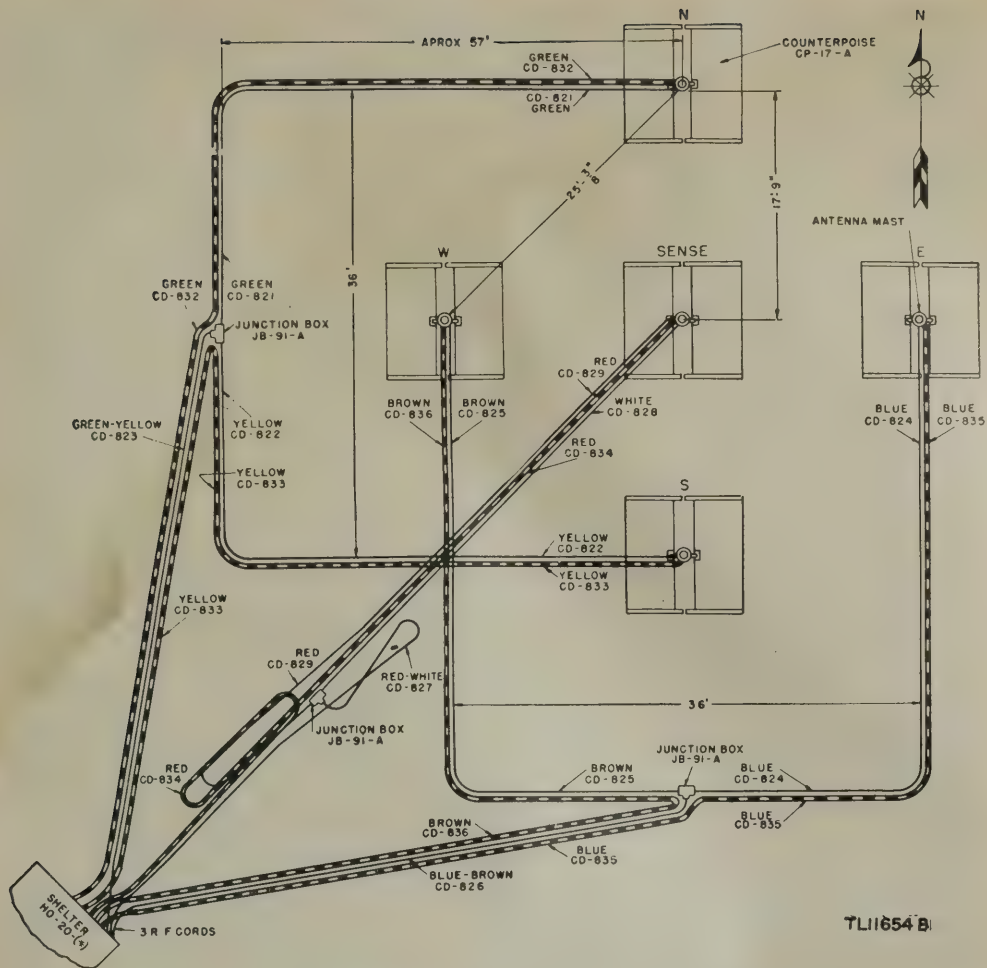

Figure 59. Antenna system layout and installation diagram.
- (1) Mount Reel DR-10-A, Unit RF-726-1, on the reel unit.
- (2) Unreel and position phase inverter power Cords CD-832 through CD-836, in that order. Connect these cords as shown in figure 59.
- (3) Unreel the a-c power Cord CD-838 and connect the spade lug end to the power unit in Shelter HO-19-A. Pass the other end of this cord through the entrance in the side of Shelter HO-20-( ), and connect it to the 115-volt